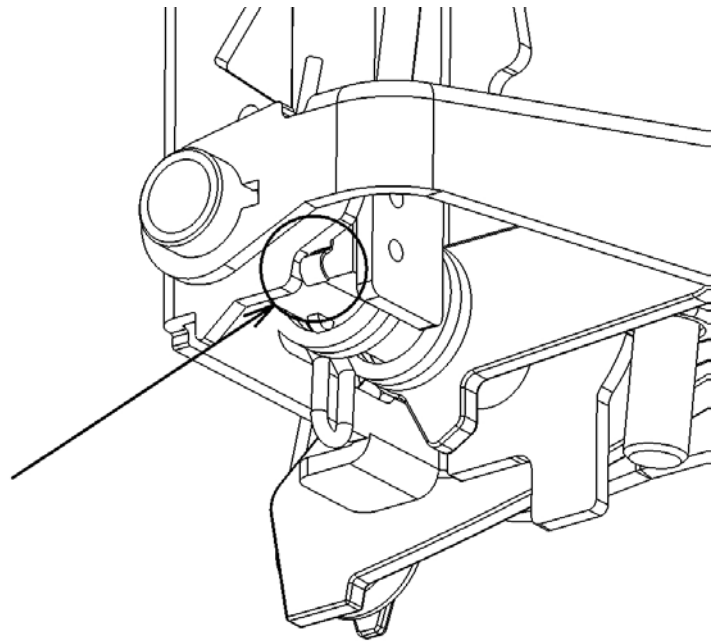

Figure. 4
On electrically operated doors install switches on both devices. Make sure that the U-bracket (N) activates the switch. See figure 4. The switch must be wired to the drive in order to stop the drive when activated. A switch with a breaker contact must be used.
4. If the double torsion spring (G) is broken, replace the cable break device
6. Check on electrically operated doors if the switch (L) will be activated by the U-bracket (N) (Fig.4).